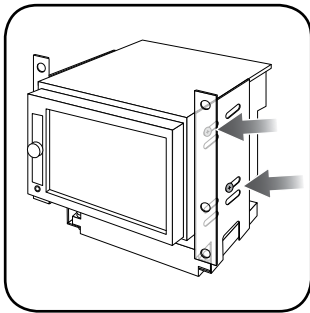

Fig. 8.0
9. Unbox the aftermarket radio and mount it to the brackets included with the FTR1 kit (use the holes marked "1" for proper placement of the new radio) . (Fig. 8.0)